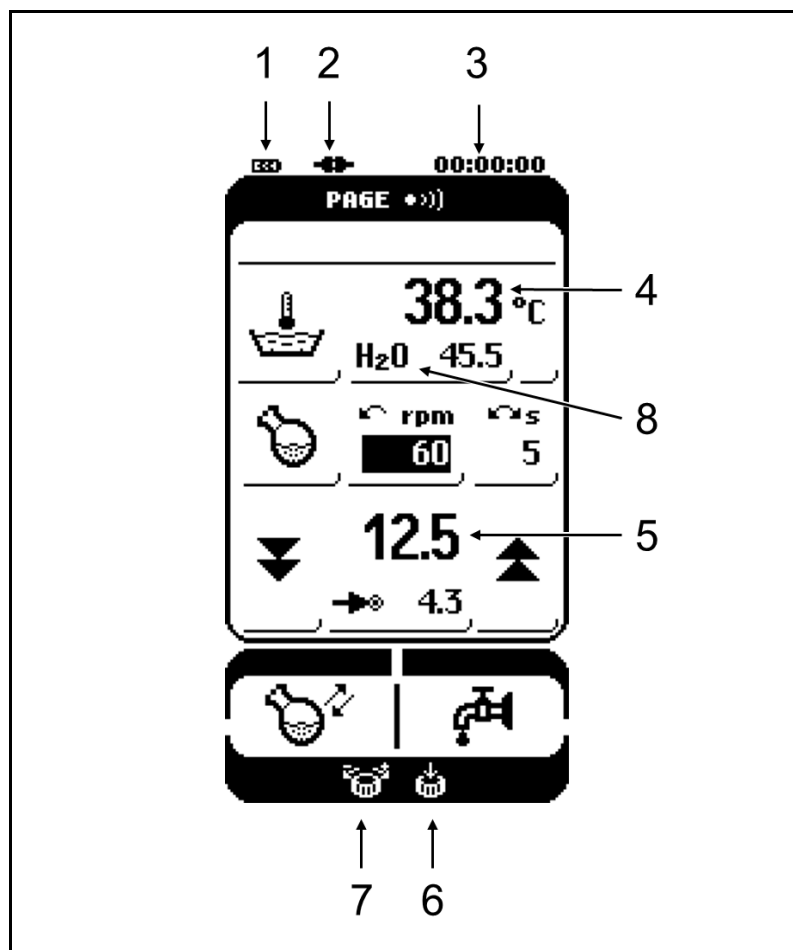
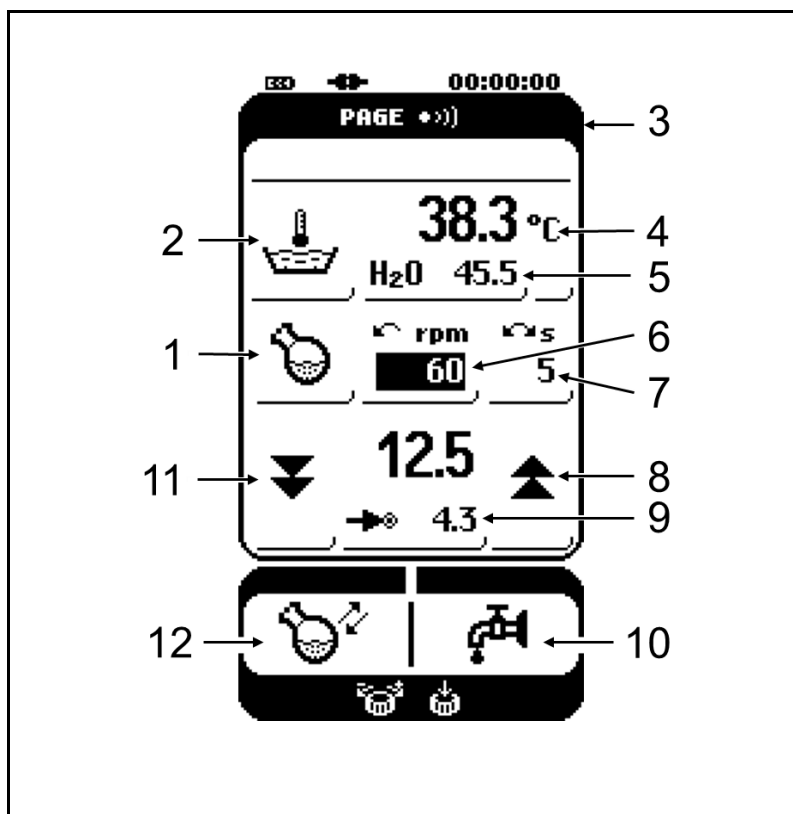
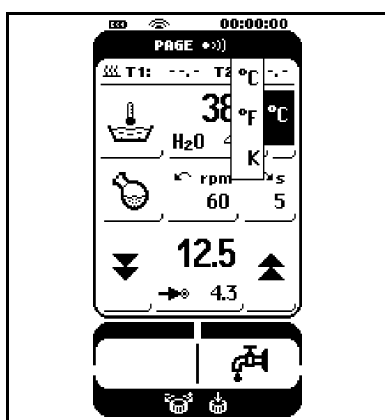
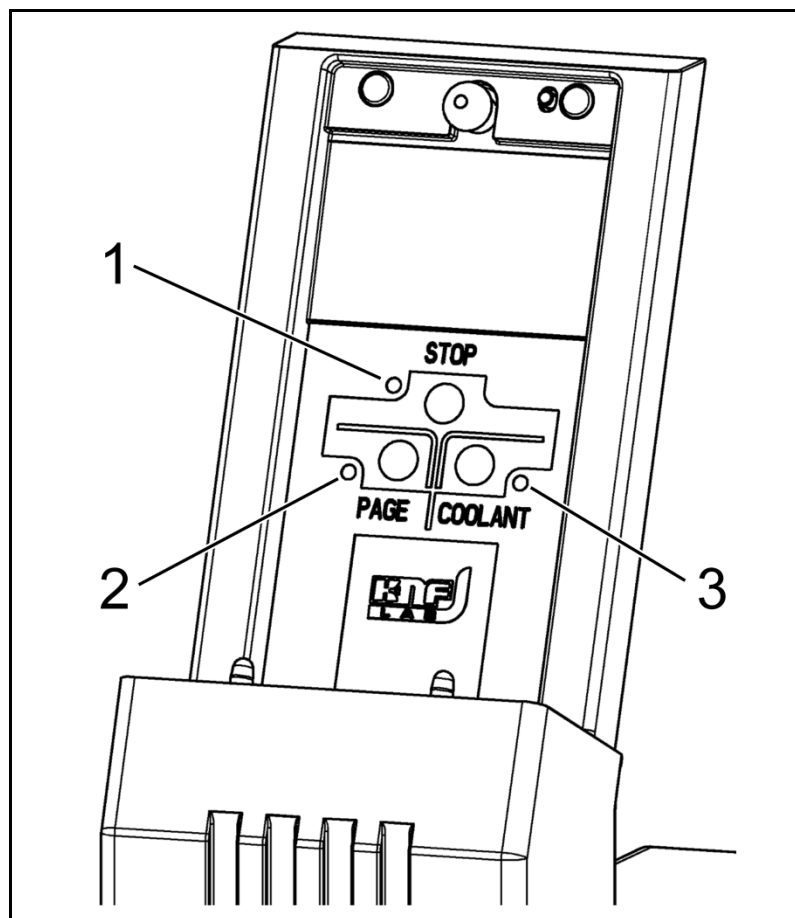

Fig. 12: Displays on the touchscreen
Fig. 13: Menus and buttons on touchscreen
Fig. 15: Temperature units menu
Fig. 19: Buttons on the RC 900 rotary evaporator
- Display of heating bath temperature and height of evaporation flask (Fig. 12/4+5 , page 35);
- Menu for selecting temperature display's units of measure (Fig. 13/4)
- Input fields (Fig. 13) for setpoints:
- Heating bath temperature (5)
- Rotation speed (6)
- Optimal time interval for changing direction of rotation (7)
- Immersion depth (8)
- Operating keys (Fig. 13) with the functions:
- switch heating bath on and off (2)
- switch rotation on and off (1)
- open and close coolant valve (accessory) (10)
The buttons with the heating bath and evaporation flask symbols are used to switch the heating bath and rotation of the evaporation flask on and off (see Fig. 13/1 + 2).
i When the heating bath or rotation of the evaporation flask is switched on, the corresponding symbol will flash (Fig. 13/1 + 2).
* according to Fig. 13
The heating bath temperature can be displayed on the hand terminal (Fig. 13/4) in either °C, °F, or K.
Use the Temperature units menu to select the temperature units (button on touchscreen; see Fig. 13/5 and Fig. 15).
Use the arrow keys on the touchscreen to raise and lower the evaporation flask (see Fig. 13/9 + 12):
- Change the setpoint (see *Entering setpoint*). The setpoint will be approached directly when the Lower button (Fig. 13/12) is pressed.
i If a new immersion depth is initiated with the fine adjustment, it can be adopted as the new setpoint by pressing and holding the setpoint button (Fig. 13/8).
The current immersion depth (see Fig. 12/5) will be stored as the new setpoint (Fig. 13/9).
Use the button with the water cock symbol (Fig. 13/10) to open and close the coolant valve on the chilled condenser.
When the paging button on the rotary evaporator (Fig. 19/2) is pressed, the hand terminal responds with a signal tone (see also Chapter 8.2).
Vice versa, the LED next to the paging button (Fig. 19/2) on the rotary evaporator will flash if the "Page rotary evaporator" symbol (Fig. 13/3) is pressed in the hand terminal's display.
The following actions can be taken directly on the rotary evaporator when the hand terminal is removed (Fig. 19):